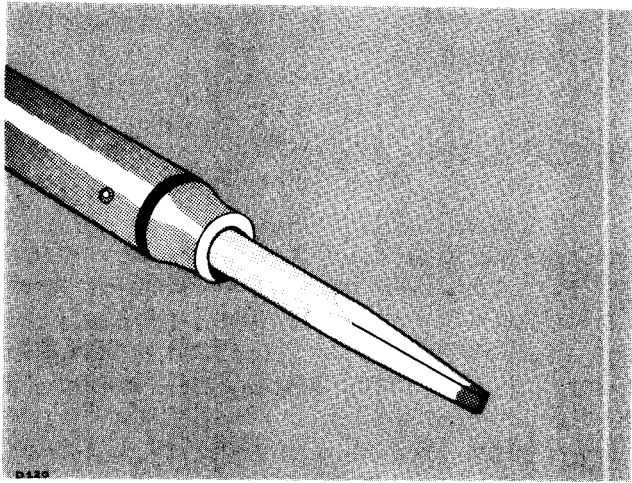

Fig. 5-1. Soldering Iron tip properly shaped and tinned.
Because of the shape of the terminals on the ceramic strips it is advisable to use a wedge-shaped tip on your soldering iron when you are installing or removing parts from the strips. Fig. 5-1 will show you the correct shape for the tip of the soldering iron. Be sure to file smooth all surfaces of the iron which will be tinned. This prevents solder from building up on rough spots where it will quickly oxidize.
2. Prepare the tip of the iron as shown in Fig. 5-1.